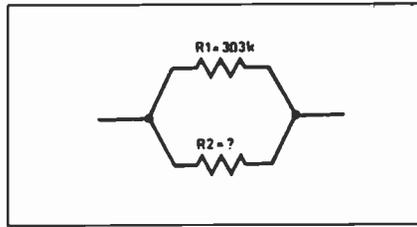

Fig. 2.5. What should R_2 be so that the total resistance is 1.5kΩ?
4. What would you parallel with a 3.3kΩ resistor to give you an equivalent resistance of 1.5kΩ? Fig. 2.5 shows the situation; when we add R_2 to the 3.3kΩ resistor we should finish up with a 1.5kΩ resistor. We know that a simple rearrangement of the parallel formula for two resistors we shall have